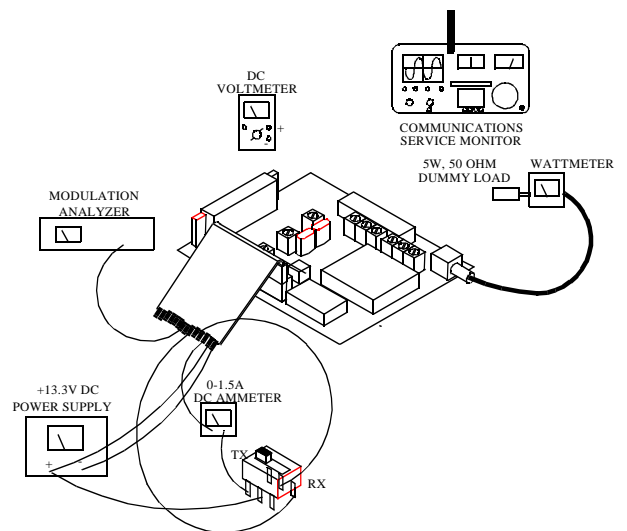

Figure 6-1 TRANSMITTER TEST SETUP
1. Connect the test setup shown in Figure 6-1. Set the power supply for +13.3V DC. See Figure 2-1 for interface cable.
1. Connect the test setup shown in Figure 6-1. A DC ammeter capable of measuring up to 3A should be installed in the supply line. Set the input voltage for +13.3V DC.